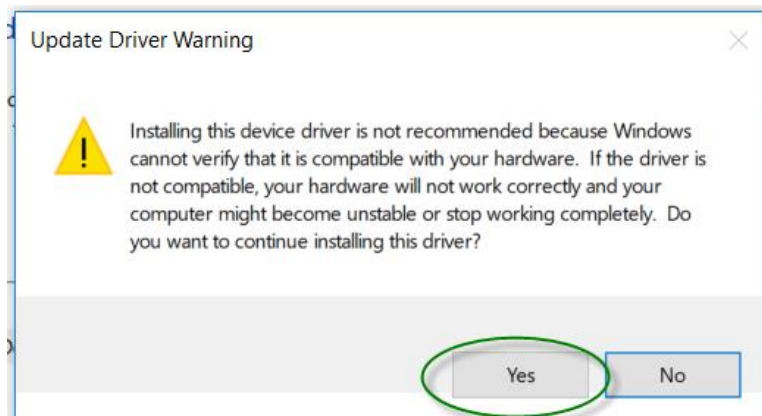

Figure 7-8 Warning dialog
7. In warning dialog (Figure 7-8), click “Yes”